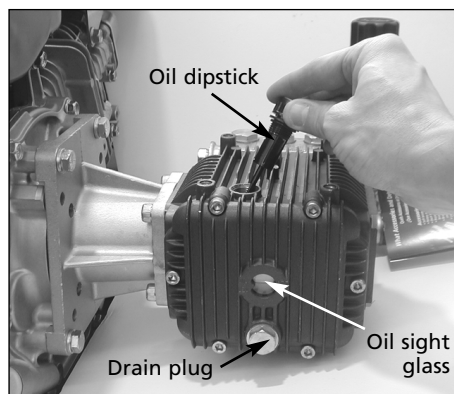

Figure 20 - Checking and changing pump oil
**Checking oil level:** Most pumps have either a sight glass or a dipstick (or both) to check the pump oil level. The sight glass is usually located on the back side of the pump. The dipstick has a plastic cap and is located at the top of the pump (See Figure 20.)
**Changing oil:** Remove the oil drain plug located at the backside or bottom of the pump. (See Figure 20.) Drain old oil. Replace drain plug. Refill pump with the correct type and amount of oil (see page 11 for oil types and amounts). Check oil level. Upon starting the pressure washer check for any pump oil leaks.